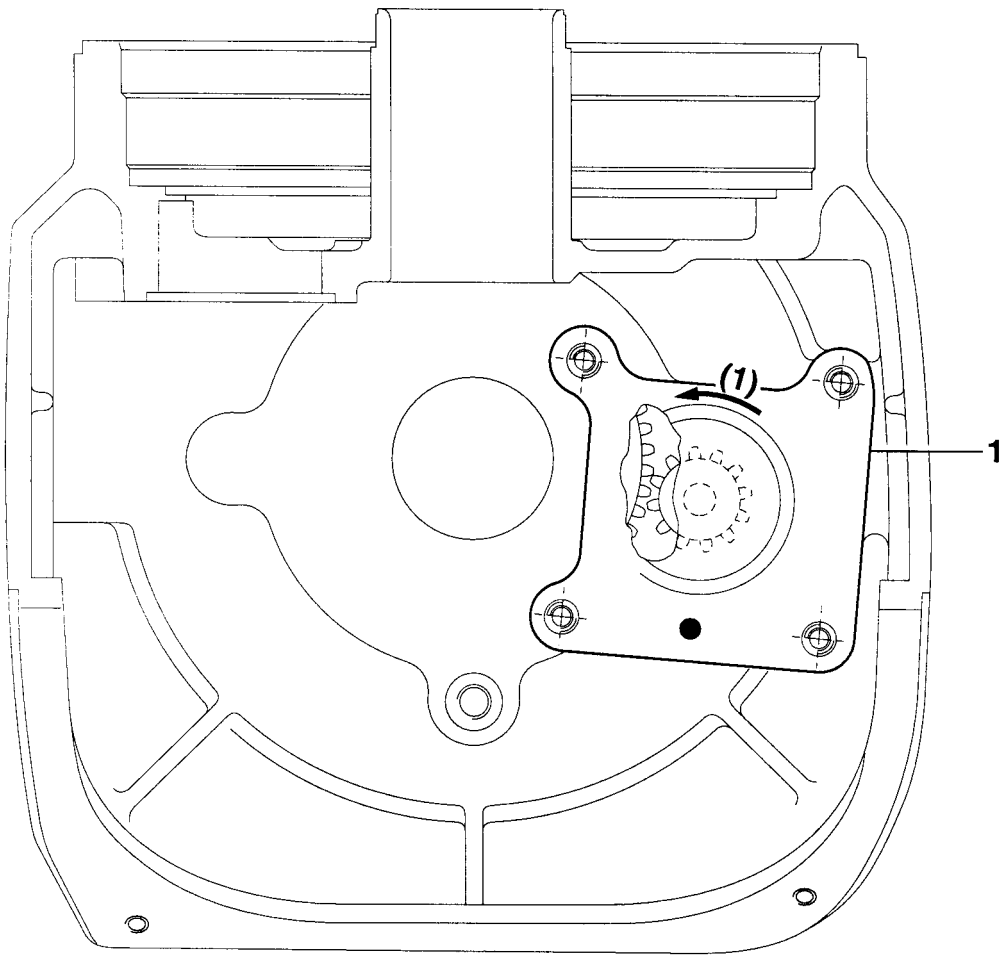

Figure 6.1
- Push the motor **(1)** in the counter-clockwise direction (**figure 6.1**). The arrow indicates less play.